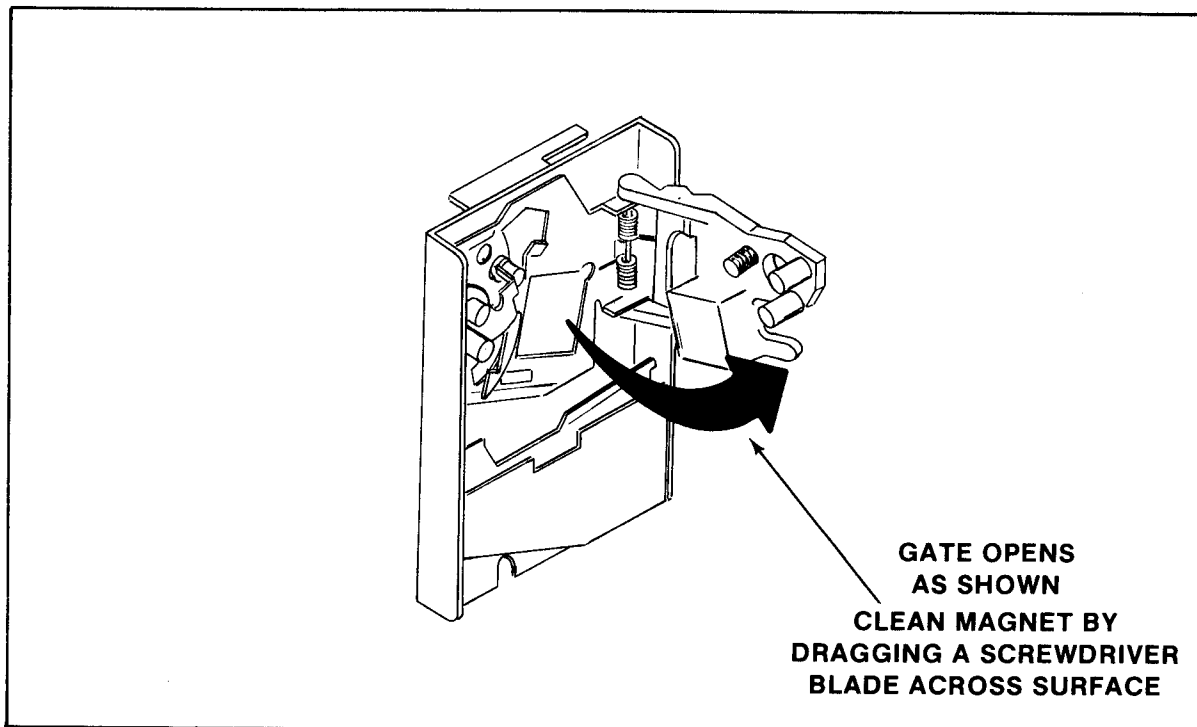

FIGURE 38
- d. Clean the magnet of all foreign particles. See Figure 38.